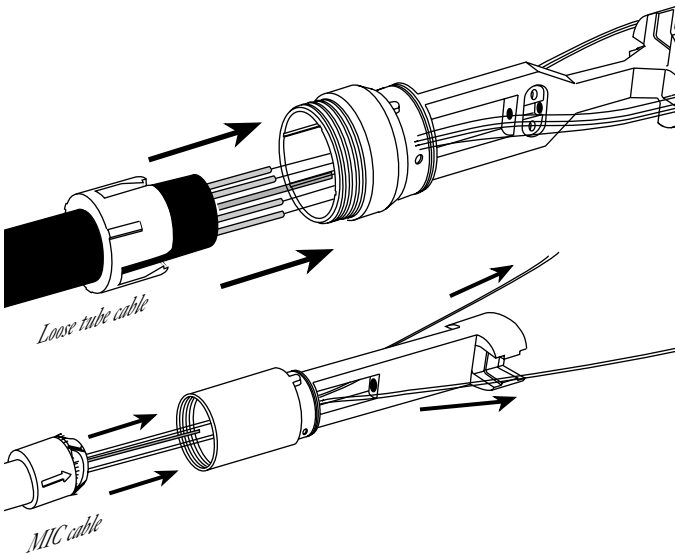

Figure 11
- a) Feed the individual fibers through the fan-out body as shown in Figure 11.